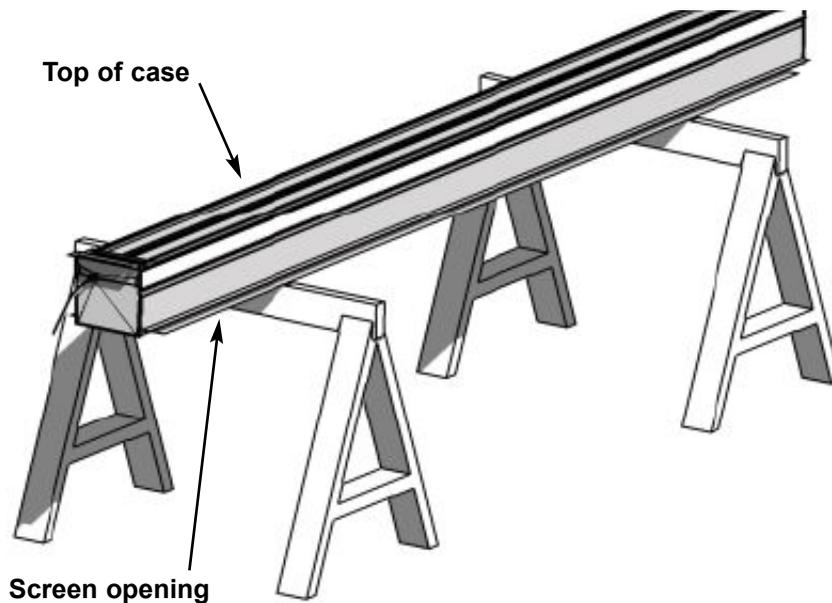

Figure 2: Screen unit placed on saw horses; top side up
4. Remove the Visionary Medio from carton by lifting straight up. Place the unit on sawhorses as shown in Figure 2. Do NOT place the Visionary on its back (with the screen opening up), as this may damage the screen material.